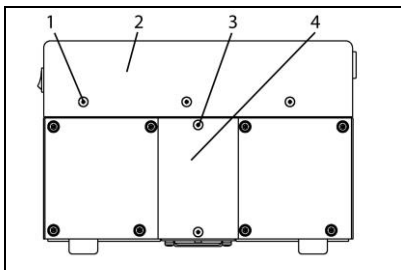

Fig. 15: Covering shroud and covers (N 940.5 APE-W)
1. Loosen the covering shroud's (2, Fig. 15) three screws (1) on each of the pump's front and rear sides.
3. At the front and rear sides of the pump, loosen the two screws (3) for each of the two covers (4) and remove the covers.
1. Connect the mains-switch cable's plug and re-install the covering shroud (2, Fig. 15).
2. Re-install the two cover plates (4, Fig. 15).